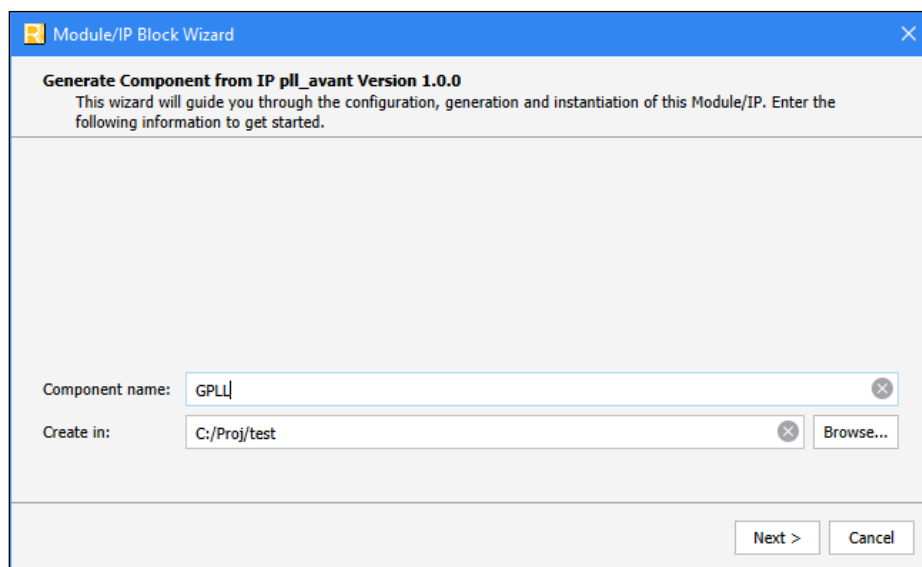

Figure 3.1. Configure Module/IP Block Wizard
2. In the **IP Catalog** tab, double-click on **PLL** under **Module, Architecture_Modules** category. The **Module/IP Block Wizard** opens as shown in Figure 3.1. Enter values in the **Instance name** and the **Create in** fields and click **Next**.
- Click **Finish**. All generated files are placed under the directory paths specified in the **Create in** and **Instance name** fields are shown in Figure 3.1.